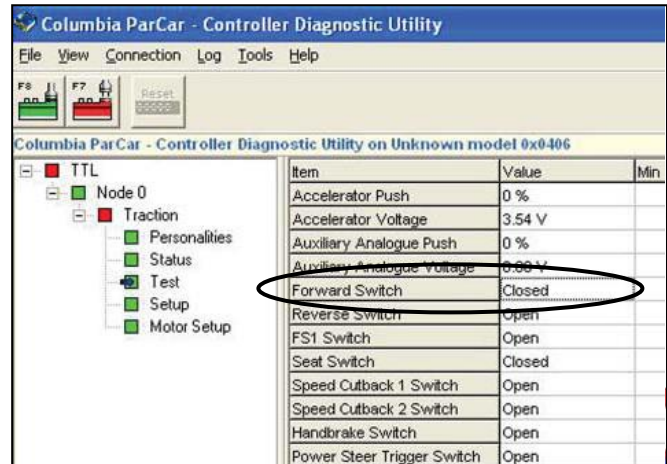

Figure 4-6
5. Check the "Seat Switch" item and value (Figure 4-6). For vehicles equipped with a seat switch, the value should read "open" when the operator seat is not occupied, and "closed" when the operator seat is occupied. If the switch fails to close, check the wiring from the B- post of the controller to the seat switch, test the seat switch with a VOM, and check the wiring back to the controller (pin 5). For vehicles without a seat switch, the value should read "Closed". If the switch does not register as closed, check the black 5 wiring from the B- post of the controller to controller plug (pin 5).